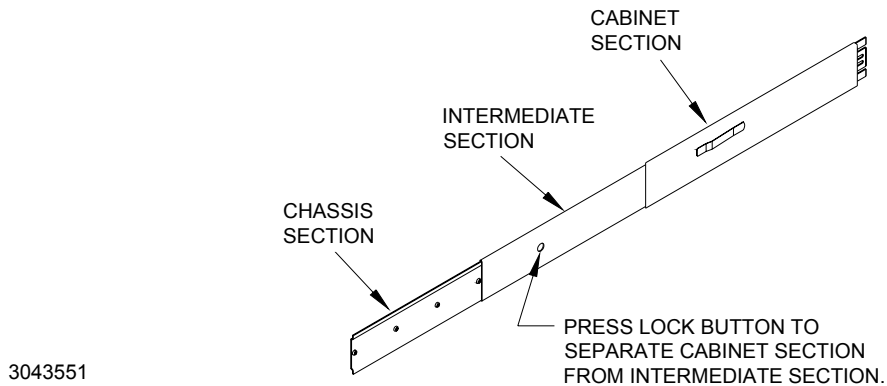

FIGURE 1. SEPARATE CHASSIS SECTION
1. The slides are shipped pre-assembled. Press lock button and separate chassis section of each slide from intermediate section (See Figure 1).